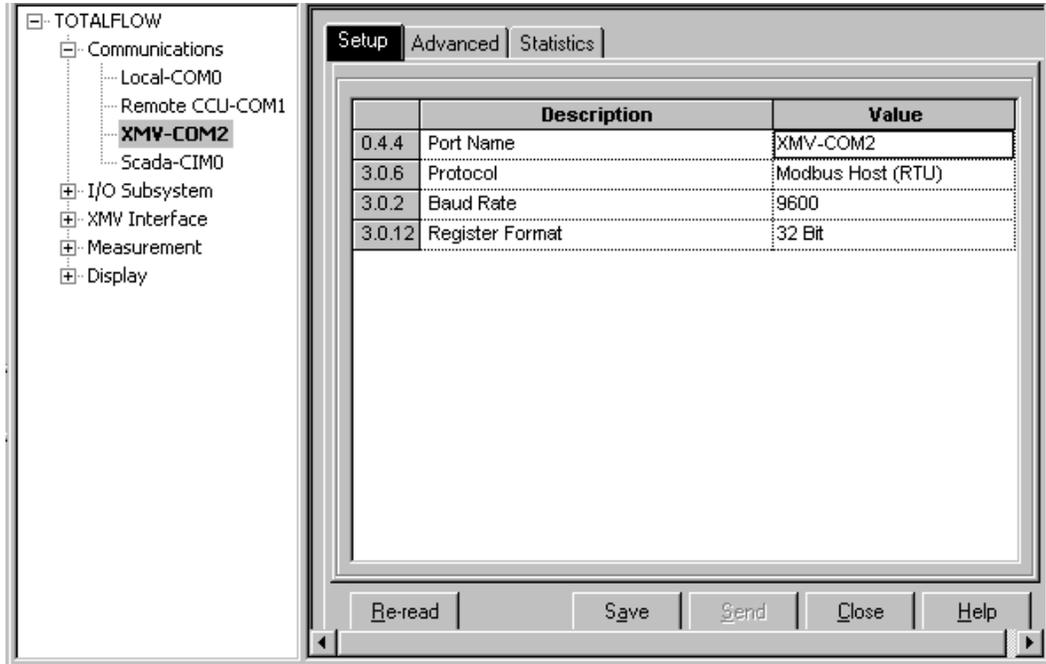

Figure 2-4 Setup Parameters
- 1) Setup the Communication Port parameters (see Figures 2-4 and 2-5) in *Entry Mode/Communications/XMV-COM#*.